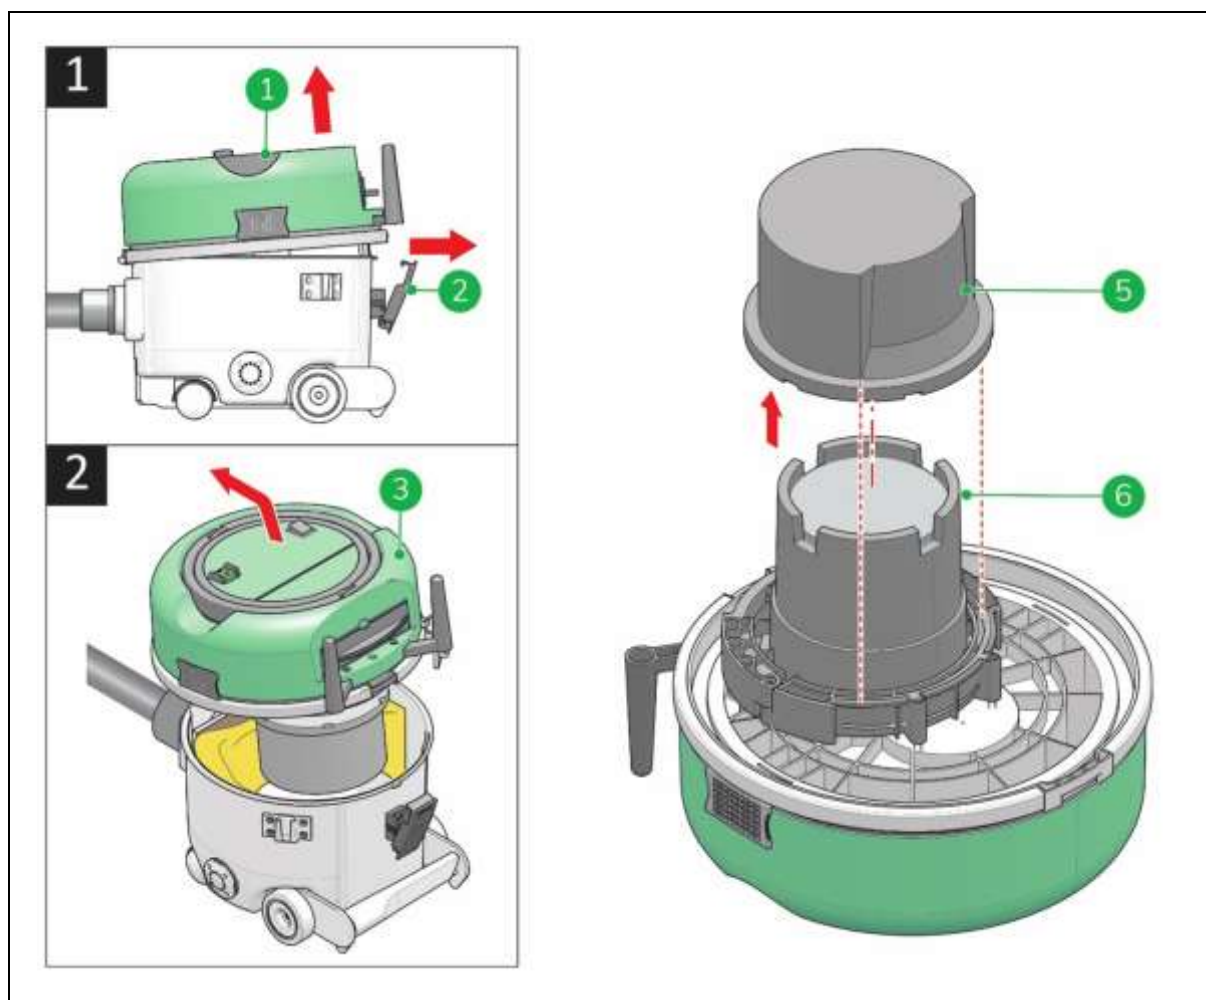

Figure 23
1. Release the latches (fig 23, pos 2).
2. Lift the head (fig 23, pos 1) under the grey rim, on the side of the latch.
3. Pull the head towards the side of the hose entrance and lift it up (fig 23, pos 3).
5. Lift the old motor filter (fig 23, pos 5) up to remove it.
6. Place the new motor filter. Align the cut-out of the filter with cut-out on the top of the motor (fig 23, pos 6).
1. Release the latch (fig 23, pos 2).
5. Lift the motor filter (fig 23, pos 5) up to remove it.
8. Place back the motor filter. Align the cut-outs of the filter with the cut-outs on the head of the Dry Plus (see fig. 23).